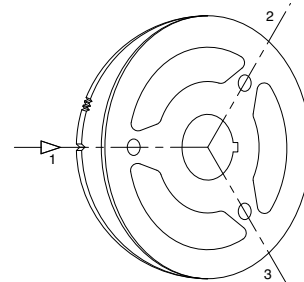

Fig. 28b:
- b. Three cylinder engine (Whisper 10): After adjusting the valves of cylinder 1 turn the crankshaft 240 degrees clockwise from the T.D.C of cylinder 1 to the T.D.C of cylinder 3. Position 2 fig. 28b against the notch. Adjust the valves of cylinder 3. Then turn the crankshaft 240 degrees further clockwise to the T.D.C of cylinder 2 and adjust the valves; position 3 fig. 28b against the notch.